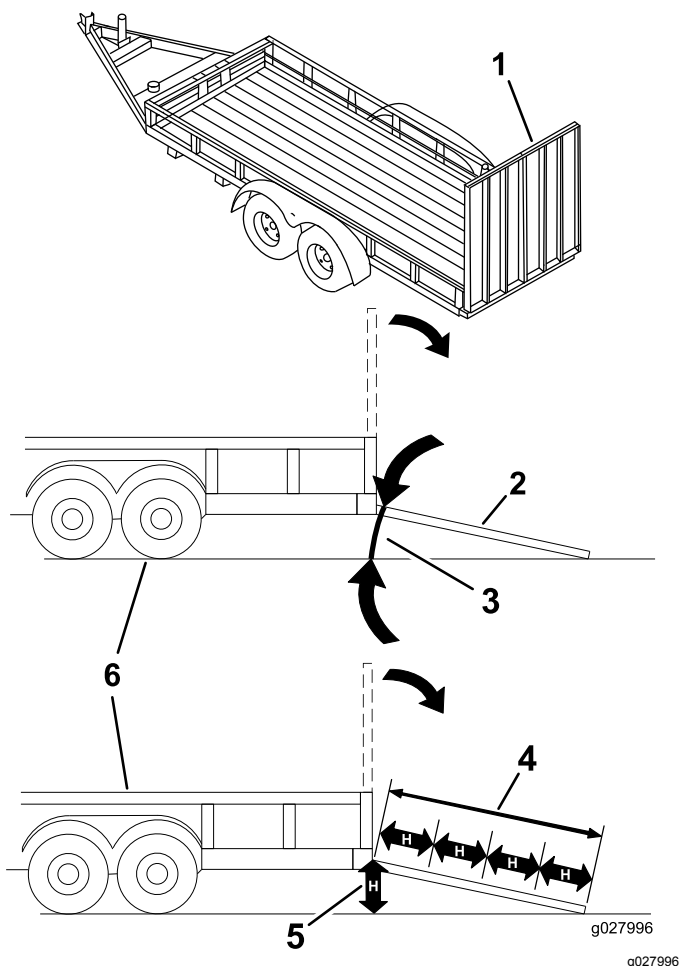

Figure 41
Loading a machine onto a trailer or truck increases the possibility of tip-over and could cause serious injury or death (Figure 41).
3. Lower the ramp, ensuring that the angle between the ramp and the ground does not exceed 15 degrees (Figure 41).
1. Lower the ramp, ensuring that the angle between the ramp and the ground does not exceed 15 degrees (Figure 41).